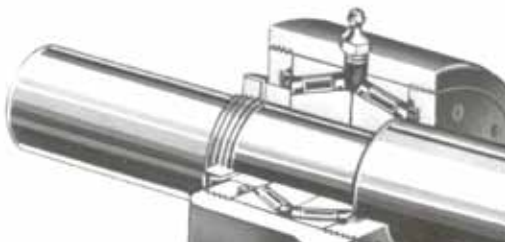

FIGURE 9
11. Insert both tapered roller bearings in the thrust bearing housing, large end of inner races together. It is possible to install bearings incorrectly, for proper assembly refer to Figure 9.